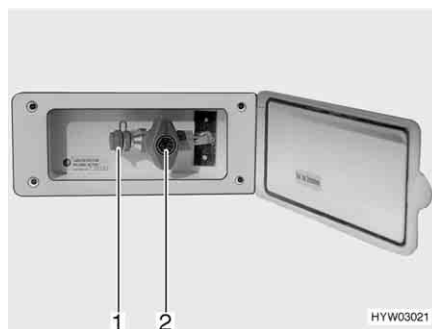

Fig. 83 External gas connection, gas isolator tap closed
The external gas connection (Fig. 83) is located at the rear or to the left or right of the vehicle depending on the model.
- Connect the external gas device to the connection point (Fig. 83,1).
- Open the gas isolator tap (Fig. 83,2).